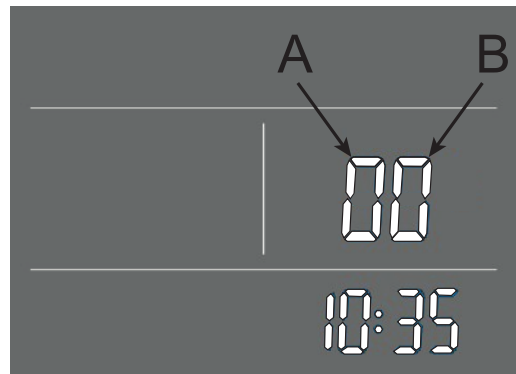

Figure 6-3 - Profiling
2.-press  button, appears a screen (Figure 6-3) where you set profile password: